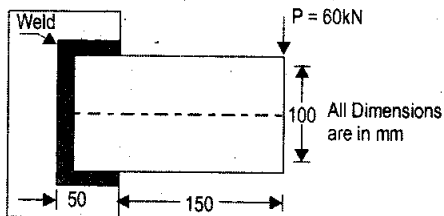

Figure 1
1. A rectangular steel plate is welded as a cantilever to a vertical column and supports a single concentrated load P , as shown in Figure 1. Determine the weld size if shear stress in the same is not to exceed 140 MPa. [14]